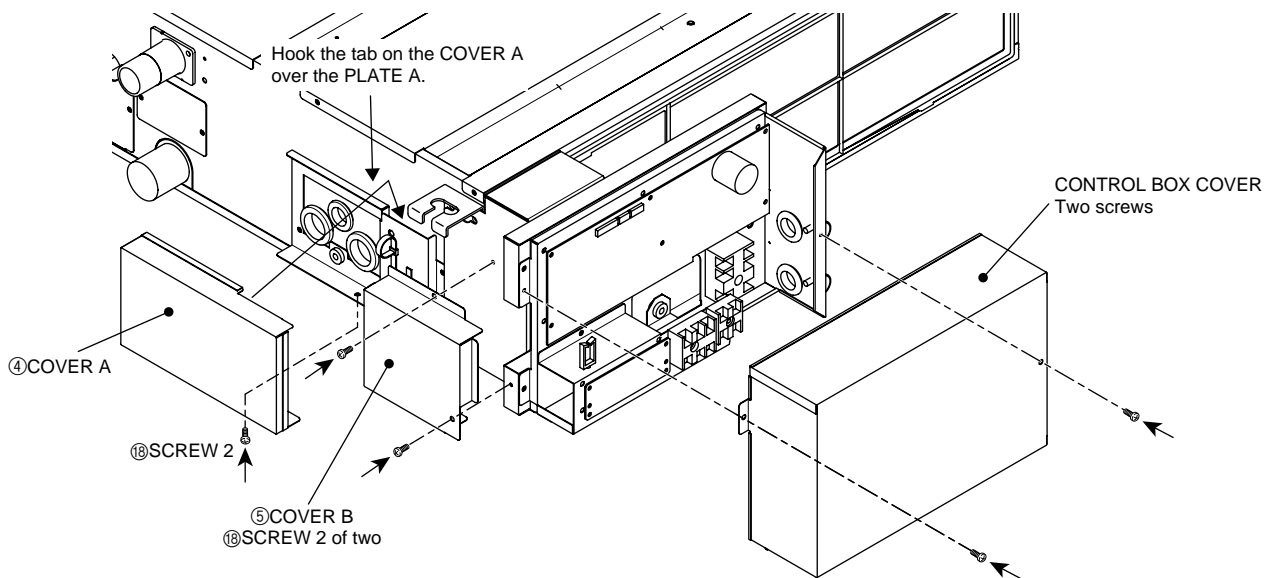

Fig. 15
- (6) Make sure that the control board and the relay connector are securely connected.
- (7) Install ④COVER A, ⑤COVER B, and the CONTROL BOX COVER to the unit.(Fig. 15)